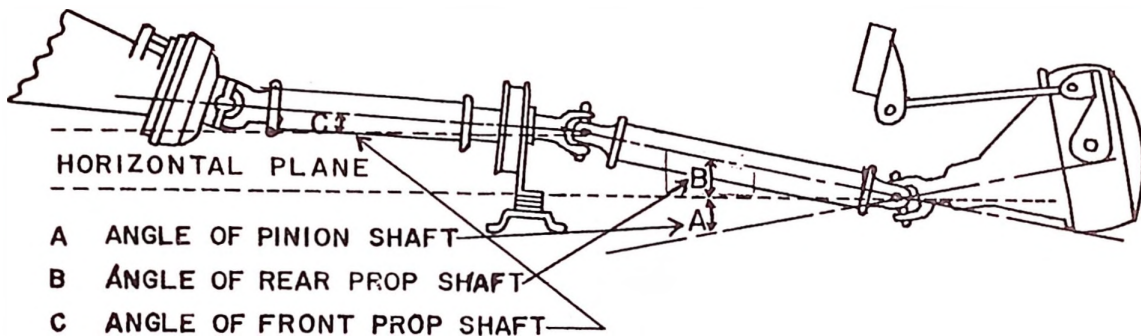

FIG 1
- a) With a bubble protractor measure the angle of the rear shaft with respect to horizontal. Disconnect the rear shaft and using the face of the rear axle pinion shaft flange (this flange should be positioned with its long dimension vertical) measure the angle of the pinion shaft with respect to horizontal. The pinion shaft should be sloping downward toward the front of the car and the rear shaft should be sloping downward toward the rear of the car. The sum of the angles is the working angle and should be approximately  $3^{\circ}$ . (See Figure 1)